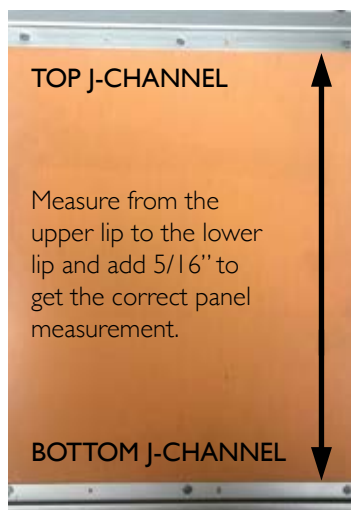

Figure 4
3. Measure the opening where the panel will sit (**NOTE:** The measurement is different for snap frames and J-Channels - take care that you determine the correct measurement to use for the various hardware systems and combinations we offer). If using a J-Channel **top** (5/8" lip) and J-Channel **bottom** (3/8" lip) you **MUST** add 3/8" to the opening height dimensions to get the correct measurement to cut down the light guide panel (LGP) with the light bar (LB) attached. (**See figure 4**)